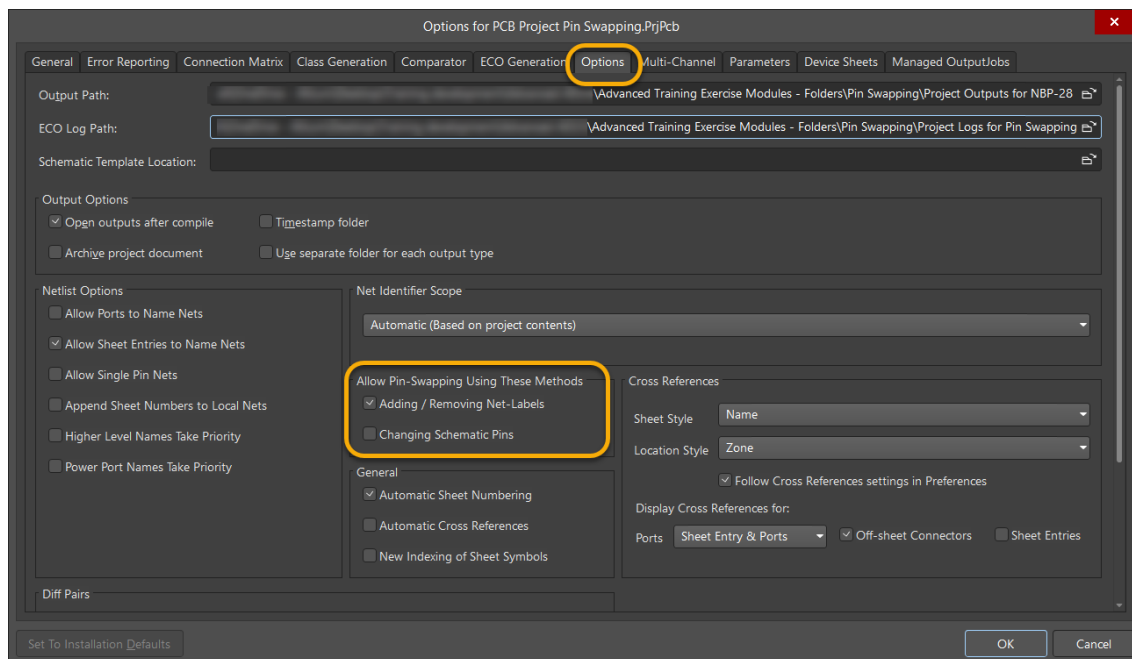

Figure 2. Project Options » Options Tab
- a) In the *Options* tab, locate the *Allow Pin Swapping Using These Methods* section and make sure only **Adding/Removing Net-Labels** is checked as shown in Figure 2. **Changing Schematic Pins** shouldn't be selected.